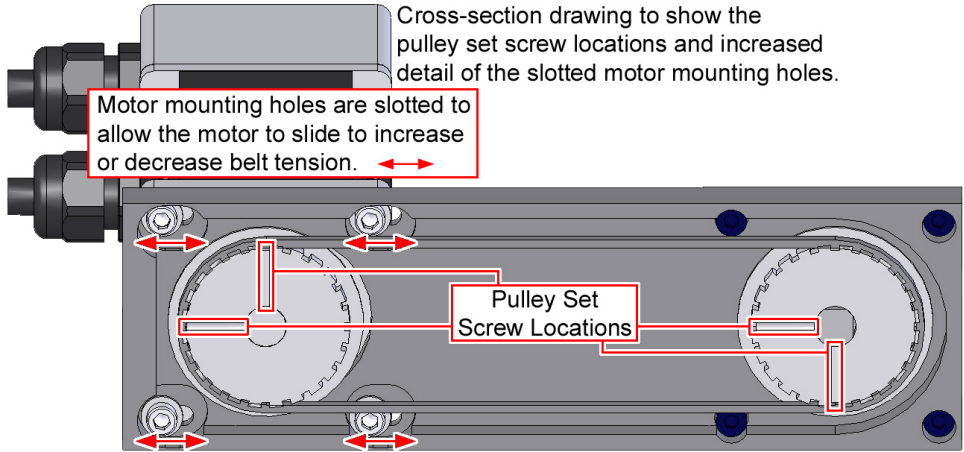

Figure 4-3: Belt Access and Adjustment on Foldback Models (Pulley Set Screws)
5. The motor mounting holes are slotted to allow for belt adjustment (Figure 4-3). With all four screws loose, pull the motor away from the stage by hand until achieving the necessary belt tension.
7. While adjusting tension, it is advisable to verify that the pulleys are tight on their respective shafts. Each pulley is held in position with two set screws (Figure 4-3). If a pulley is loose, it may be necessary to tighten one or both of these screws.